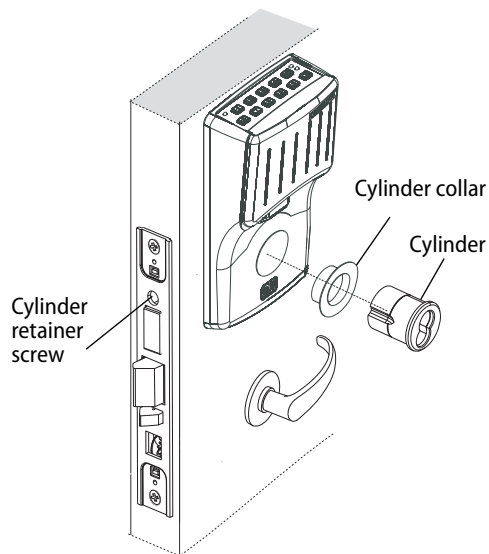

Figure 17 Installing the standard cylinder
- 2 Thread the cylinder into the mortise case. Rotate the cylinder until the cylinder is flush against the collar and the cylinder cam is in the 12 o'clock position. See Figure 17.